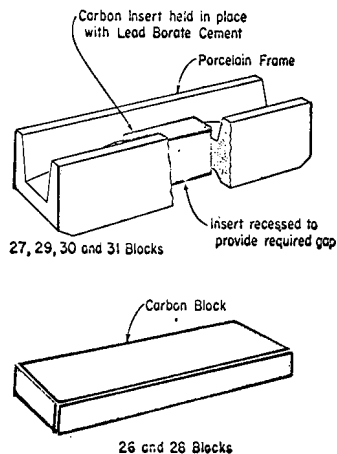

FIGURE 1
- 2.01 The *rectangular type* protector block is shown in Figure 1.